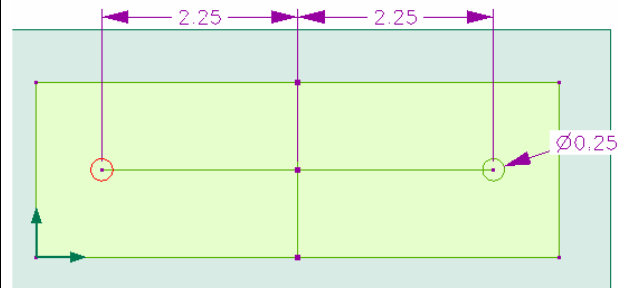

Figure 37. Layout for mounting holes.
77. Layout and draw two 1/4"D holes according to the dimensions in figure 37.